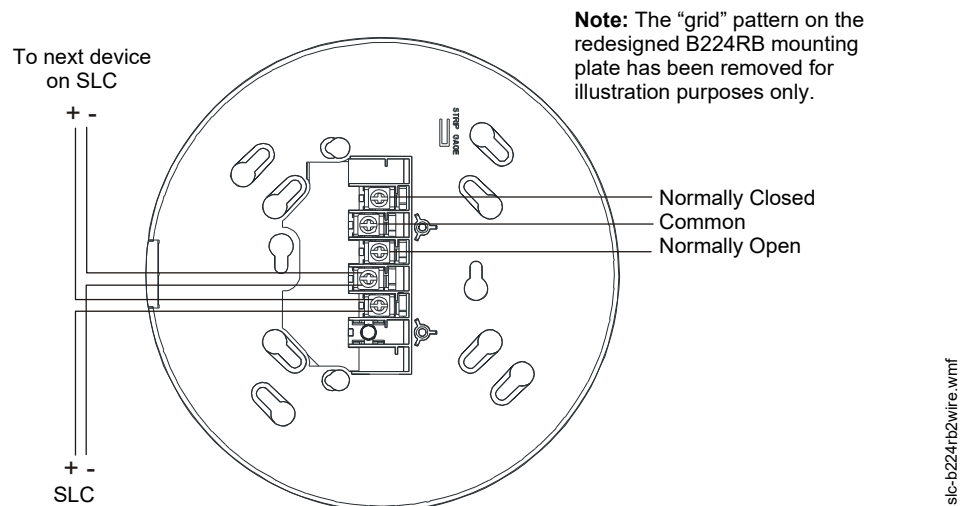

Figure 10.4 Wiring of a B224RB Relay Base Mounting Plate
- B224RB-WH, B224RB-IV (FlashScan/CLIP, plug-in relay detector base; Figure 10.4). (-WH is white; -IV is ivory).
Figure 10.4 shows typical wiring of the B224RB plug-in relay detector base connected to an SLC.